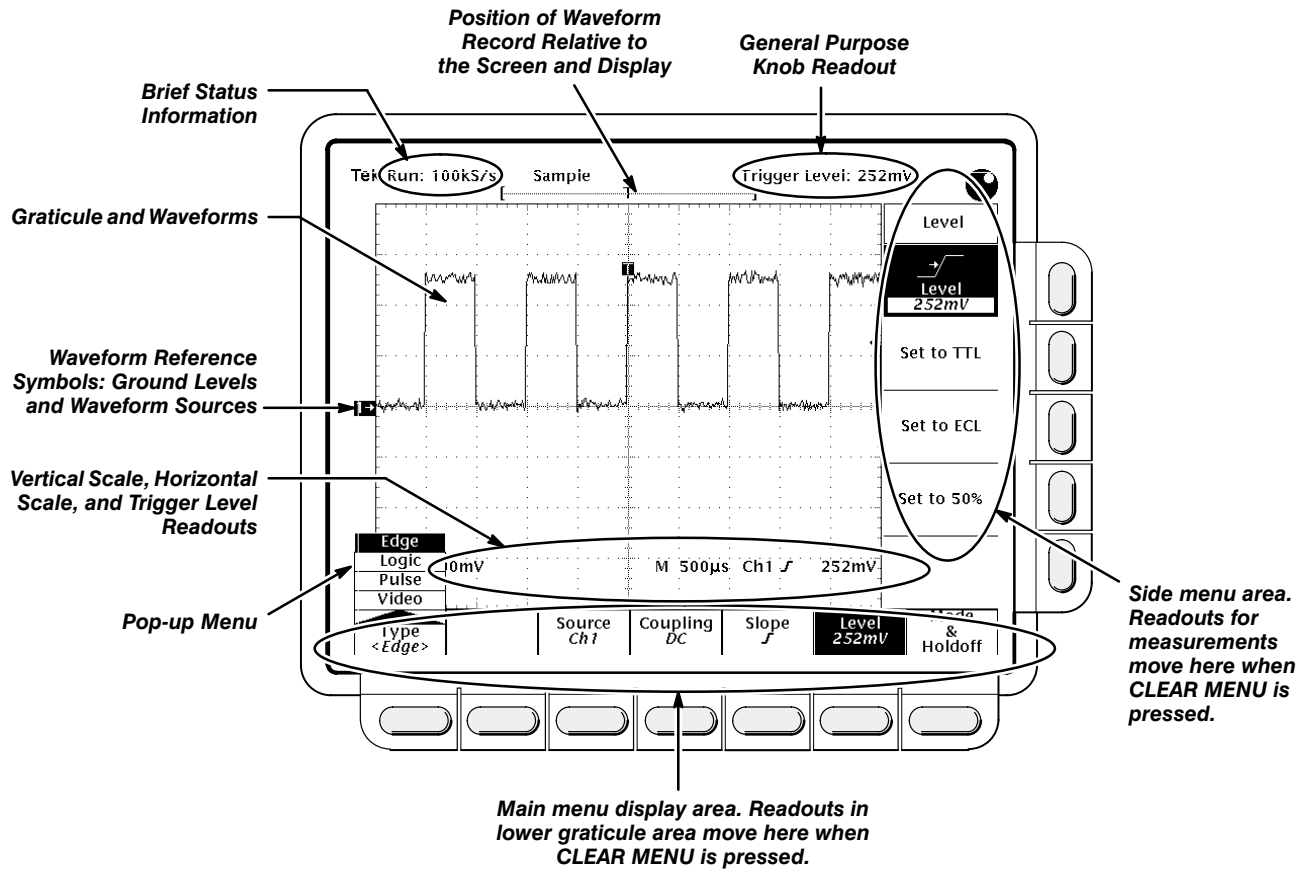

Figure 1-1: Map of Display Functions
- Refer to Figure 1-1: “Main menu” refers to the menu that labels the seven menu buttons under the display; “side menu” refers to the menu that labels the five buttons to the right of the display. “Pop-up menu” refers to a menu that pops up when a main-menu button is pressed.
- The vertical scale readout for the channel under test shows a setting of 200 mV, and a square-wave probe-compensation signal about 2.5 divisions in amplitude is on-screen. (See Figure 1-1 on page 1-3 to locate the readout.)
- The vertical scale readout for the channel under test shows a setting of 1 V, and a square-wave probe-compensation signal about $\frac{1}{2}$ division in amplitude is on-screen. (See Figure 1-1 on page 1-3 to locate the readout.)